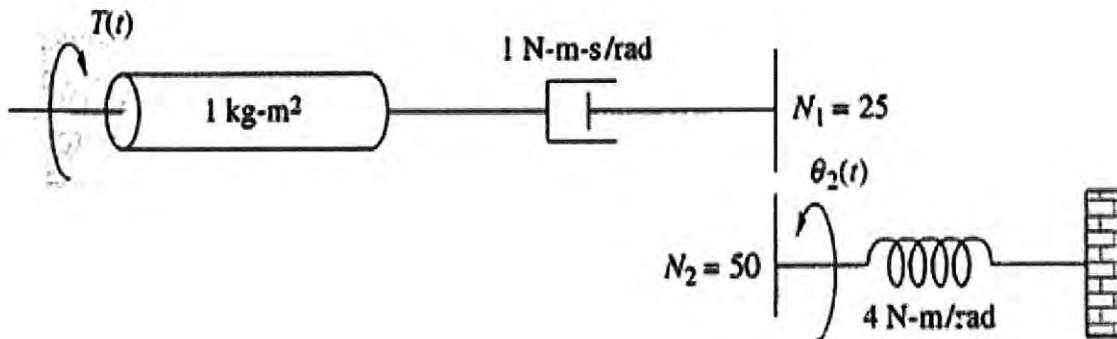

Figure 4
- b) For the rotational mechanical system shown below in Figure 4, determine the transfer function  $G(s) = \frac{Q_1(s)}{T(s)}$ . Assume zero initial conditions. **(8 marks)**